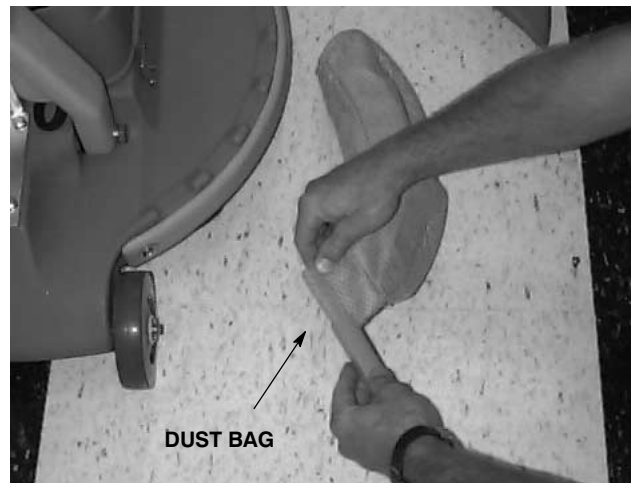

FIG. 9
2. Empty dust bag after each use. Slide bag clip off at bottom of bag to empty (Figure 9).